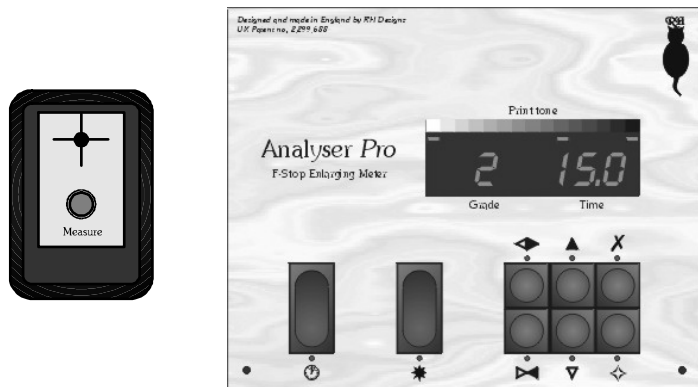

Fig.1. The Remote Sensor and Control Box Front Panel
To set up The Analyser, first follow the instructions in the Installation Guide on Page 30 of this booklet. After checking the installation, switch on the Ilford power pack to provide power to the Analyser. The display will light all segments, then show the paper set in use (e.g. PAP 1) and then display the default step-size followed by the initial grade (2) and exposure time (15.0). The safe-light should be on and the enlarger off. The front panel of the main unit and its display and controls are illustrated in Fig. 1. The remote sensor houses the metering cell and a push button switch; care should be exercised in handling the remote sensor.
There are 8 buttons on the control box (refer to Fig.1):